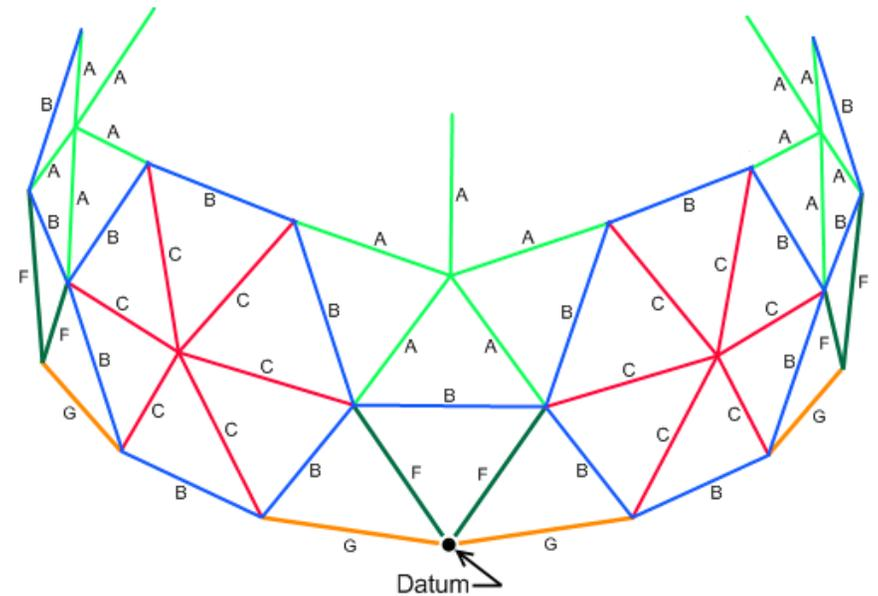

Figure 8 - Add 5 A's to the structure.
- Next count out 5 A's. Install these struts in a vertical orientation so that they match Figure 8. Be sure you are installing each A strut at a joint where four other A struts come together.